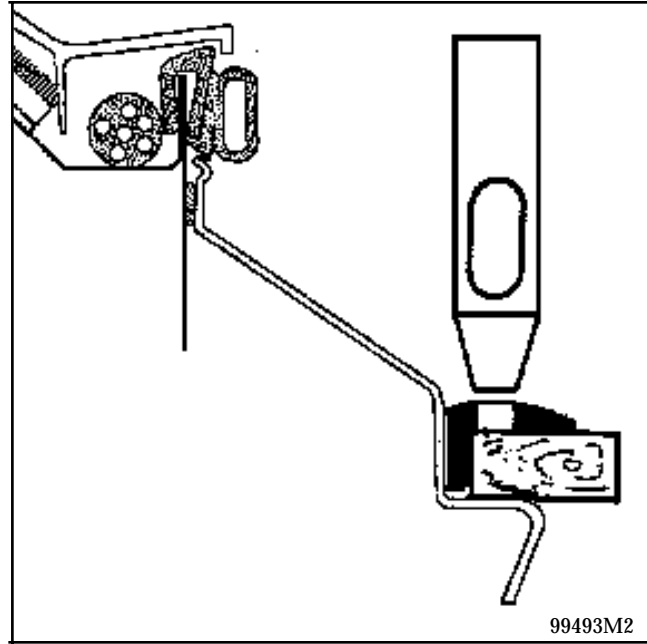

Fig. 2
- lift the lip of the seal and fit the **18 mm** thick block of wood under this lip in the drilling area. Drill the lip, remove the block of wood and check the condition of the hole (**Fig. 2**).